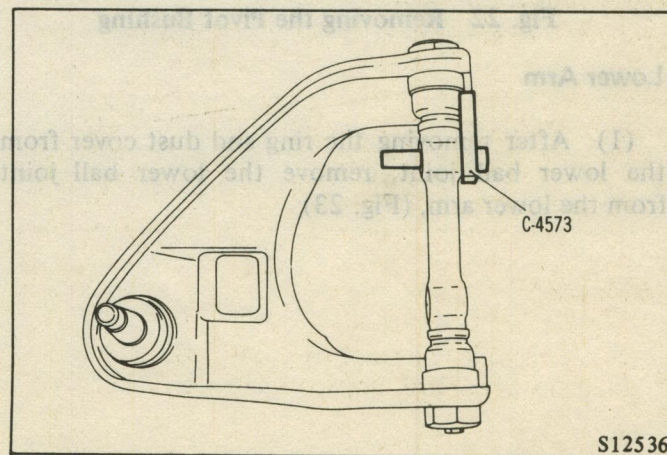

Fig. 26 Measuring and Adjusting Standard Caster
(7) To set standard caster, insert special tool (C-4573) through each hole in upper arm shaft. Rotate upper arm shaft until tool fits flush at each end of the shaft as shown in Fig. 26.
(8) Apply grease to internal thread of pivot bushing. Screw upper arm shaft into the pivot bushing.